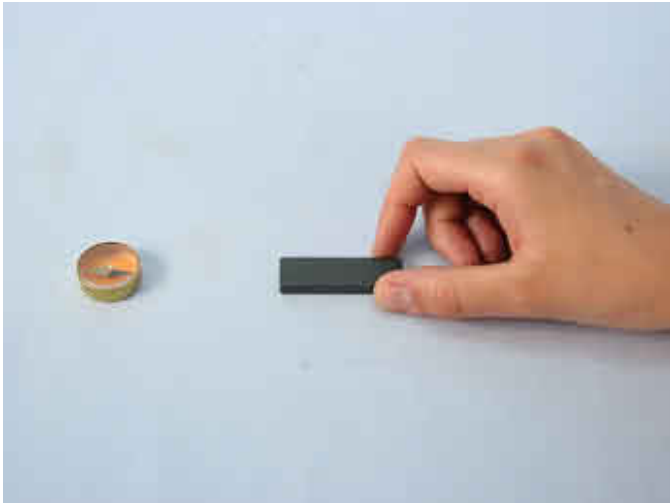

Fig. 1
- The magnets must have had marker points stuck on them before the start of this experiment. To do this, bring one end of one of them near the coloured side of the compass needle (Fig. 1). When the north pole of the compass stays directed towards the magnet, then this end is the south pole of the magnet. Stick a green marker on it. When the compass needle turns so that the south pole of it is facing the magnet, the end facing the compass is the north pole of the magnet. Stick a red marker on it. Repeat this procedure with the other magnet.